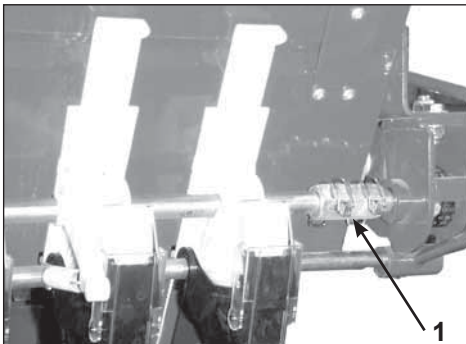

Fig 11
- 4 Agitator Shaft - Check the Seed Chart "Hints" (Table 3) whether to connect or disconnect the shaft by removing the lynch pins (1) during seeding (Fig 11).